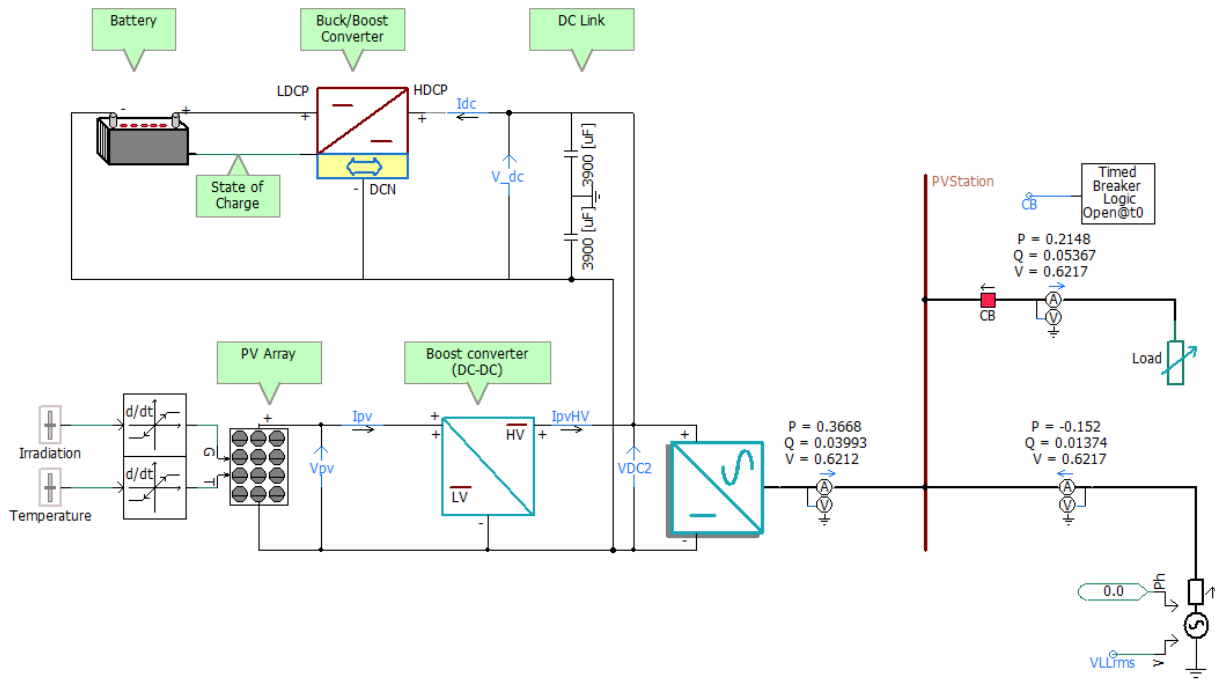

Figure 1: Overall PV-battery system connected to equivalent voltage source (stand-alone is not activated)
This document outlines a Photovoltaic (PV) and battery system in PSCAD. Figure 1 shows the PSCAD main page of the PV-battery system PV\_Battery\_generic\_May2017.pscx. This example is not designed to work under stand-alone condition.
Based on the reference power generated by the maximum power point tracker (MPPT) the boost converter adjusts the dc link current  $I_{pvHV}$  (see Figure 1). The voltage source converter (VSC) controls the dc voltage  $V_{DC2}$  and tries to maintain it its reference value.